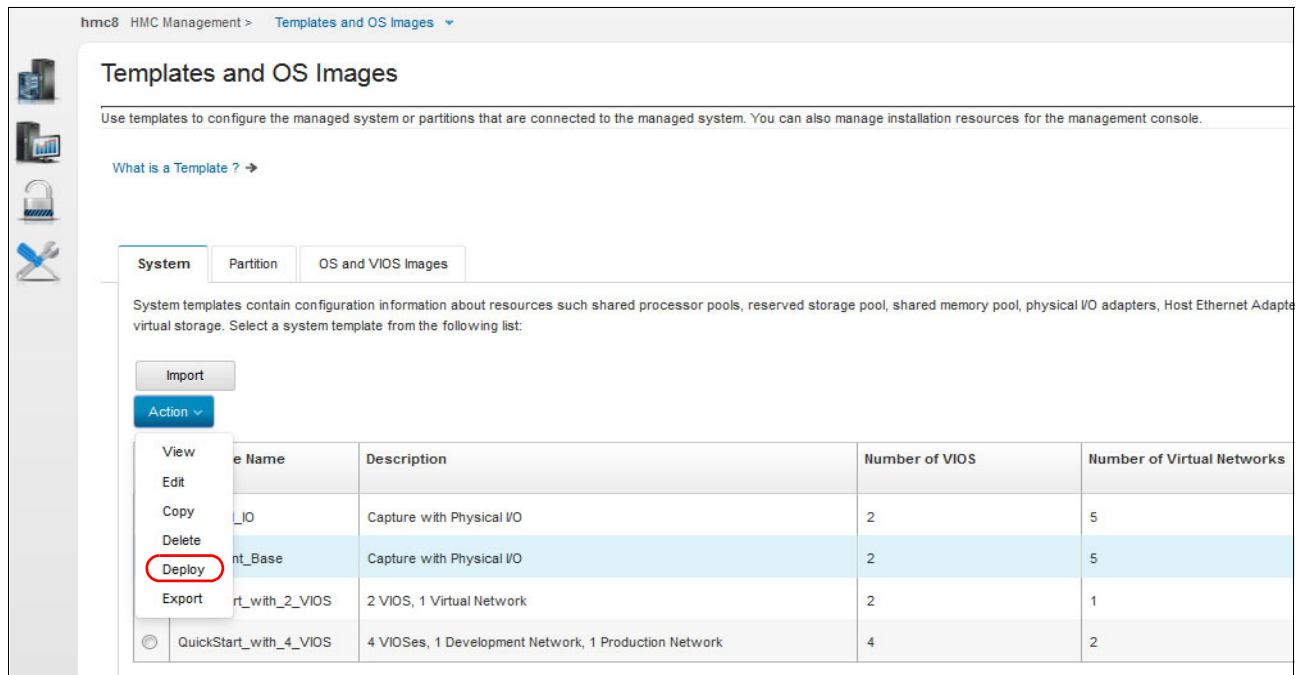

Figure 2-89 Template deployment from the Templates and OS Images
1. click **HMC Management**, click **Templates and OS Images**, select your template, right-click the template, and select **Deploy**, as shown in Figure 2-89.